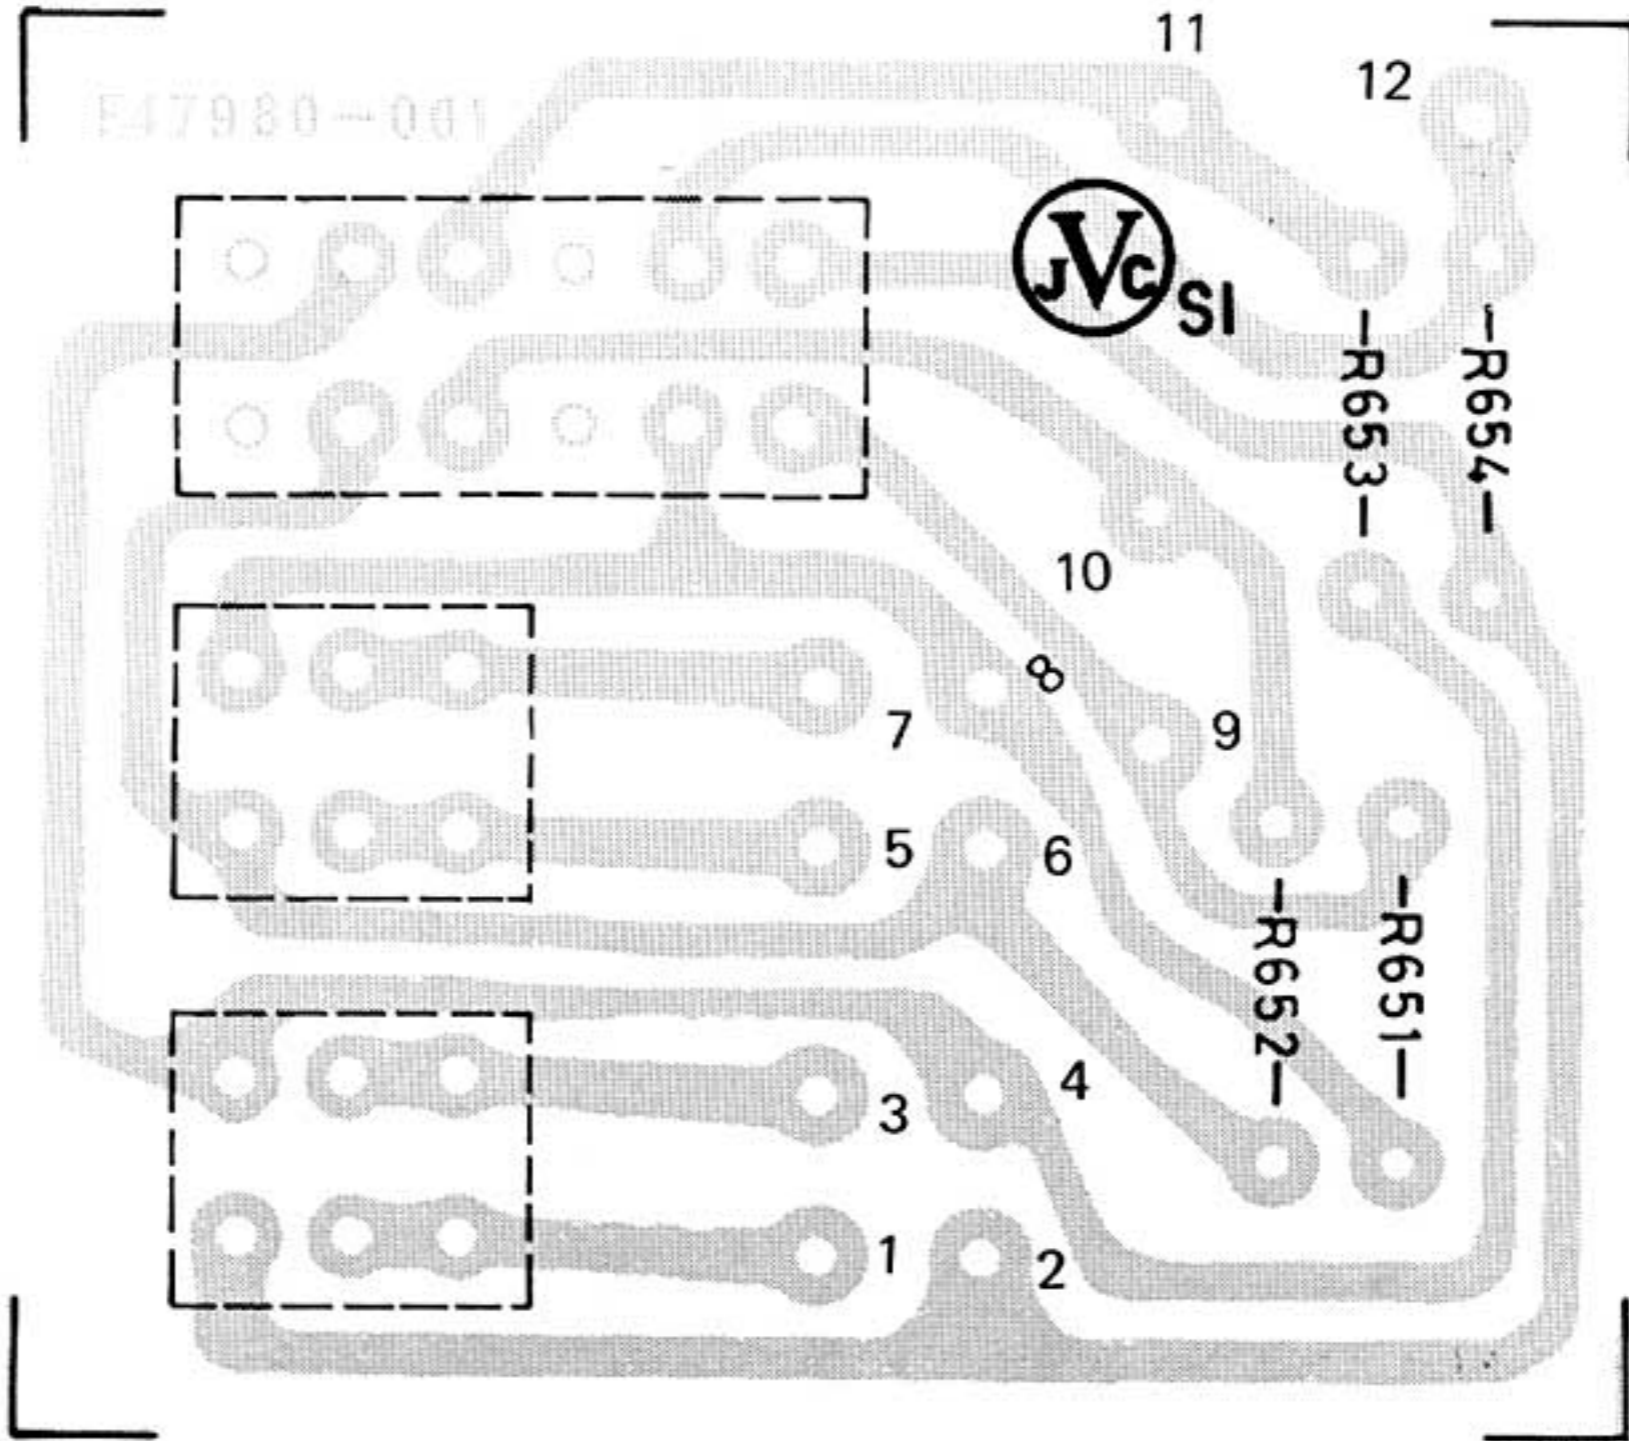

Fig. 18
**WIRE CONNECTION** (Fig. 18, 19)